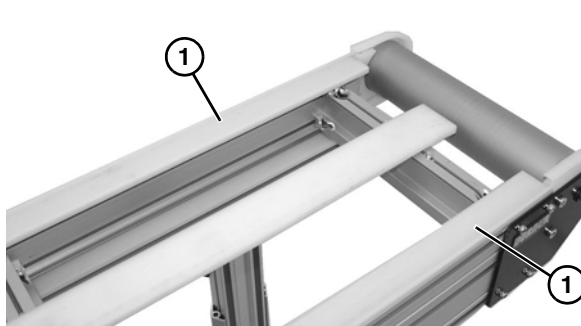

Figure 20
1. Remove upper wear strips (Figure 20, item 1) from top of frame assembly.